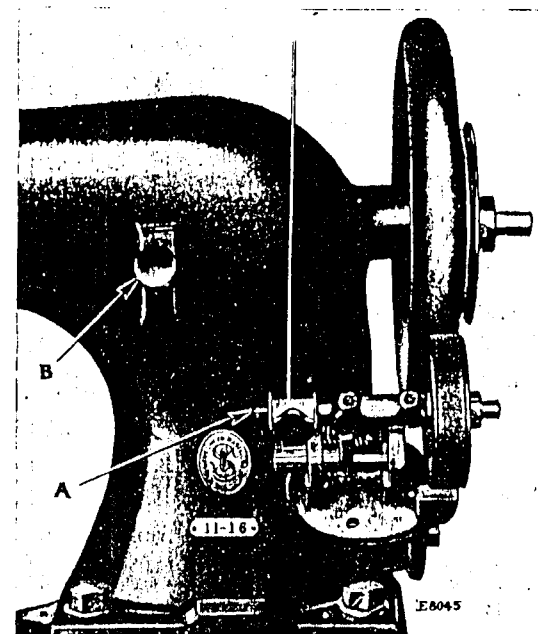

FIG. 4. WINDING THE BOBBIN
Wind a few coils of thread around the bobbin by hand and place the bobbin on the bobbin winder spindle (A, Fig. 4), having
The length of stitch is regulated by the thumb screw (B, Fig. 4) in the slot on the front of the upright part of the arm. To lengthen the stitch, loosen this thumb screw and move it downwardly. To shorten the stitch, loosen this thumb screw and move it upwardly. When the desired length of stitch is obtained, tighten the thumb screw (B).